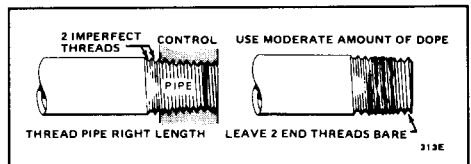

Fig. 3—Use moderate amount of pipe compound.
4. Apply a moderate amount of good quality pipe compound (DO NOT use Teflon tape) to pipe only, leaving two end threads bare. On LP installations, use compound resistant to LP gas. See Fig. 3.